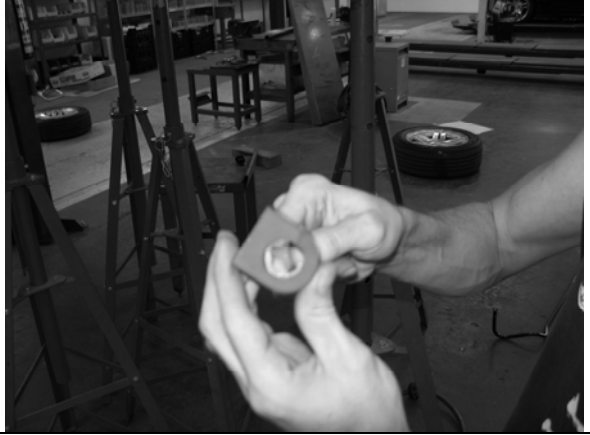

**FIG. 1**
- On this particular Anti-Sway Bar kit, the left and right front (drivers' and passengers' side) sides, spacers are needed. Located between the spacer bar and the chassis, the rear mounting holes (towards the rear of the vehicle) is where the spacer should be located. (See Fig. 1)